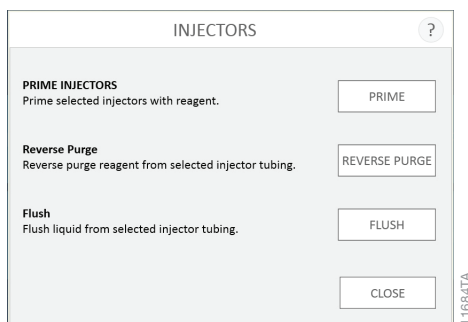

Figure 89. Injector functions (prime, reverse purge and flush).
5. Tap the **Prime** button shown in Figure 89.
1. Tap the **Reverse Purge** button on the Injectors screen (Figure 89).
2. Tap the **Flush** button on the 'Injectors' screen (Figure 89).